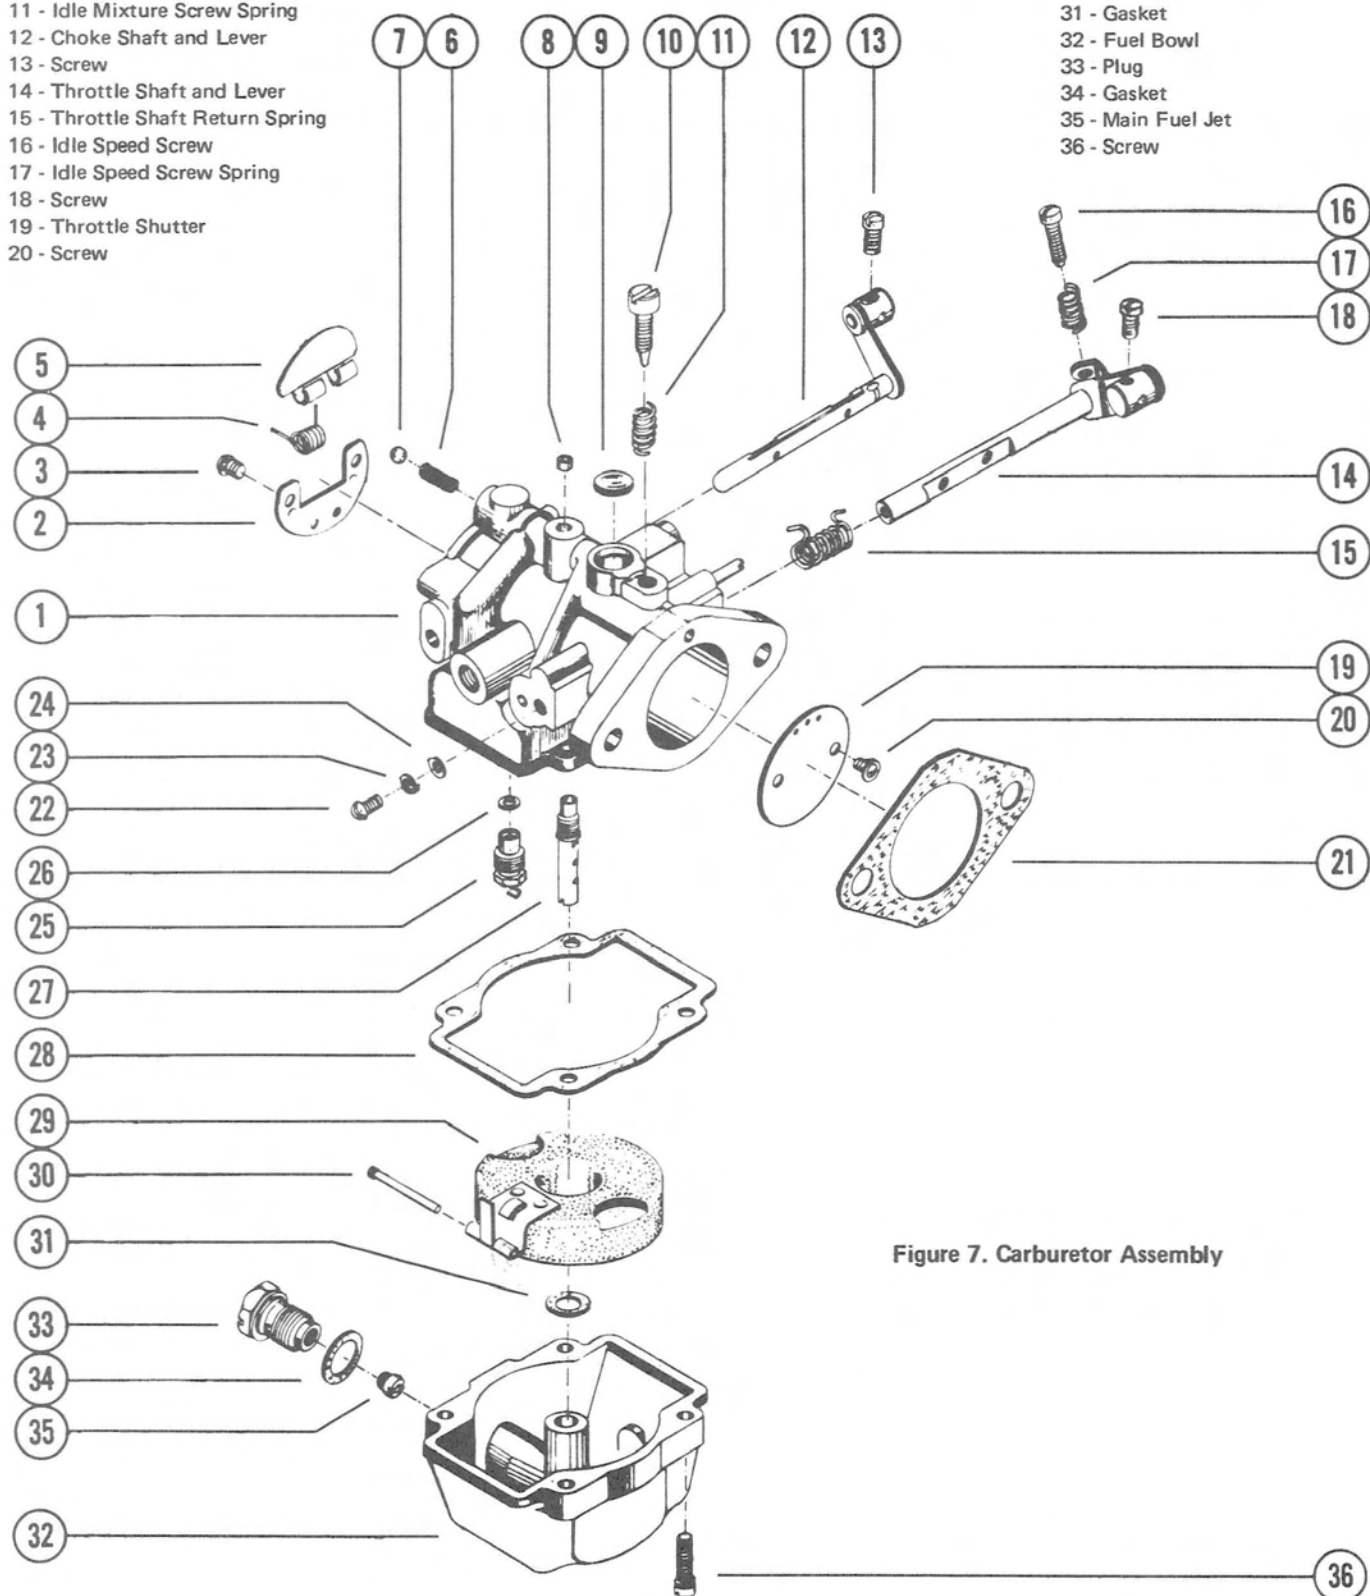

Figure 7. Carburetor Assembly
2. Refer to (Figure 7) and reassemble carburetor. Make certain that all parts are kept clean during assembly into the casting. Tighten inlet seat to 40-50 in. lbs.